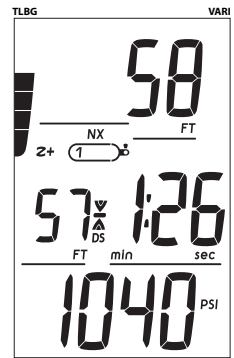

Fig. 57 - DS MAIN
**DEEP STOP MAIN**, information includes (Fig. 57):